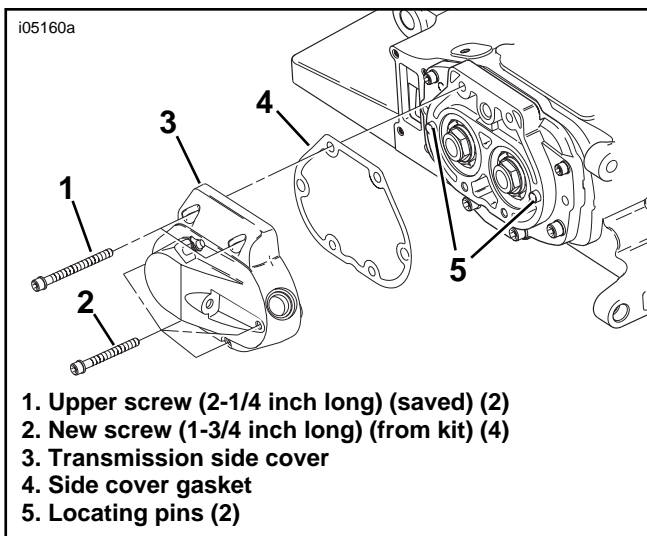

Figure 6. New Transmission Side Cover Installation
- Refer to Figure 6. Place the new cover gasket from the kit over the hollow locating pins (5) in the transmission housing. Line up the new transmission side cover assembly (which includes the secondary actuator [slave] cylinder and bleeder screw) on the locating pins.